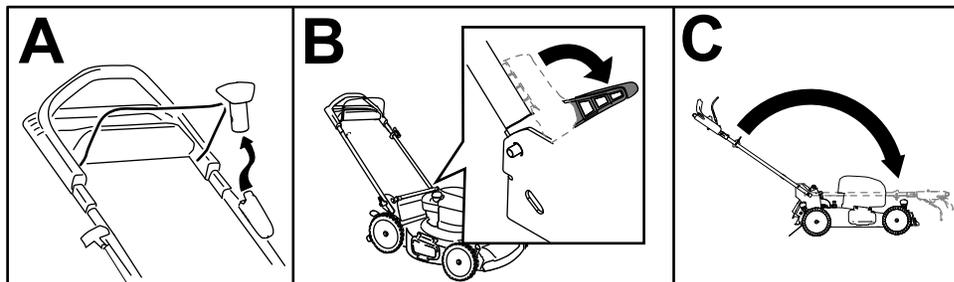

Figure 23
1. Remove the electric-start button as shown in A of Figure 23.
3. Disengage the handle locks until you can move the upper handle freely (B of Figure 23).
4. Fold the handle forward either to the vertical position or the fully forward position (C of Figure 23).